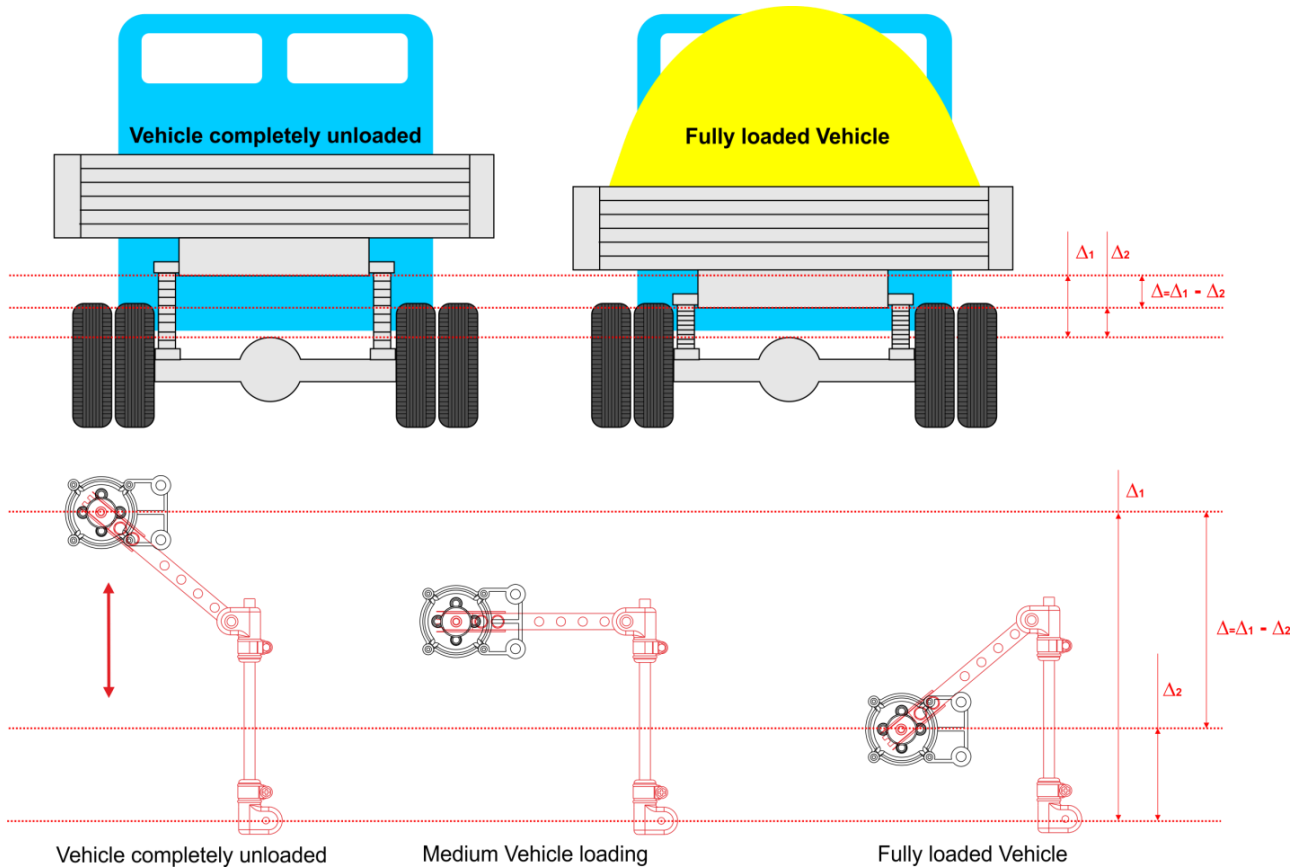

Figure 19 – Defining the Vehicle suspension travel
**2) The lever length (L) and the rod length (H) from mounting kit are selected experimentally, specifically on the Vehicle to be equipped. The range of changing the angle of rotation of the lever of the mounted GNOM DP must be within the entire Vehicle suspension travel ( $\Delta$ ) (see figure 19).**